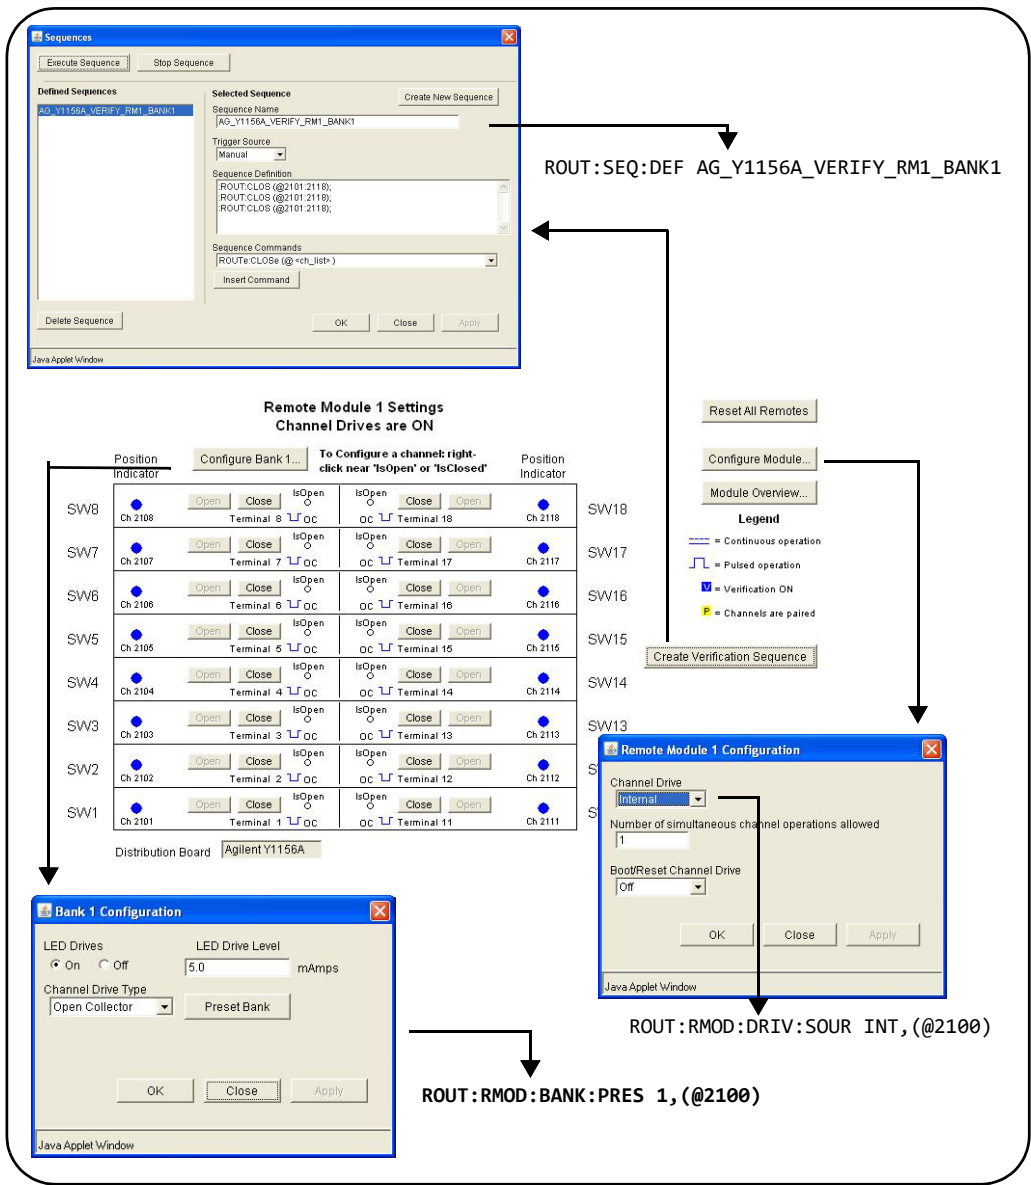

Figure 4-8 Running the Y1156A Verification Sequence.
- 4** Select 'Allow Full Control' and in the 'Browser Web Control' window, locate the bank and Y1156A programming diagram. An example of the diagram is shown in Figure 4-8. For this example, the 34945A is installed in 34980A slot 2.